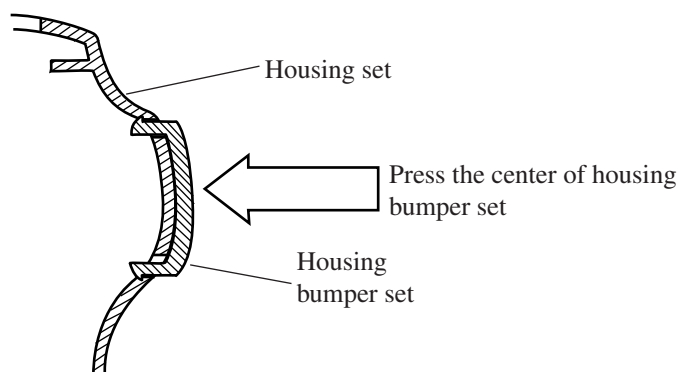

Fig.6
- (1) Hook the convex of housing bumper set to the punched hole near the hole for brush holder.
- (2) Hook the convex of lower part of housing bumper set to the punched hole.
- (3) Hook the convex of upper part of housing bumper set to the punched hole.
- (4) Press the center of housing bumper set to assemble it to housing set without gap as illustrated in Fig.6.